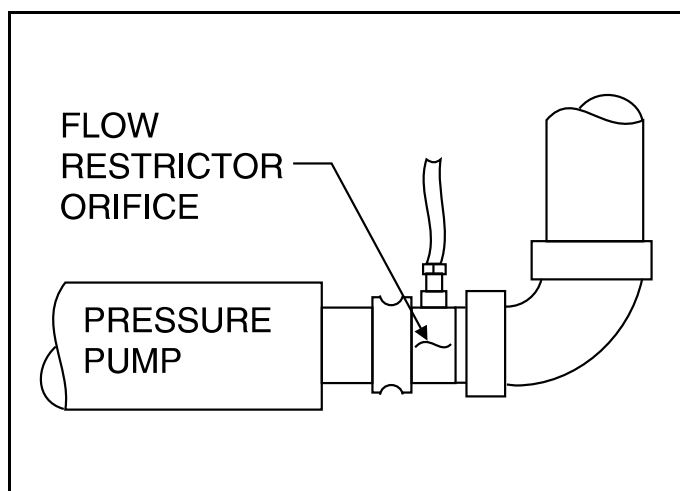

FIGURE 1 (MSIND420AE)
1. Ensure pressure pump flow restrictor orifice is installed before attempting operation. See FIGURE 1.